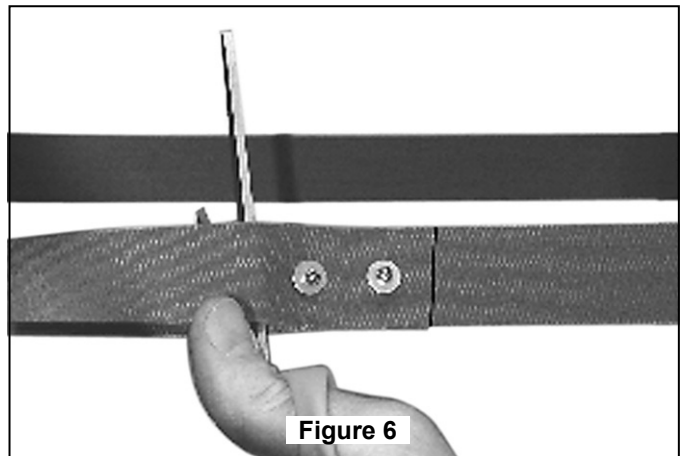

Figure 6
11. After the connections have been made, tighten the lag bolts to secure fan base assembly to the ceiling, making sure that the electrical wires are completely inside the base assembly and not pinched between the base and the ceiling. (Figure 6)
4. Trim the excess belting as shown. The overlap should be approximately one to two inches in length. (Figures 6 & 7)